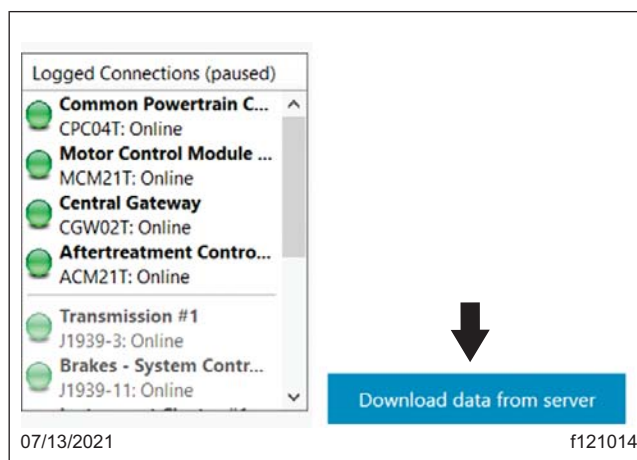

Fig. 7, Downloading Data from the Server
8. Select 'Connected Unit.' Make sure the VIN information populated in the center window is correct, then select 'Download data from server' at the lower left-hand side of the screen. See Fig. 7.